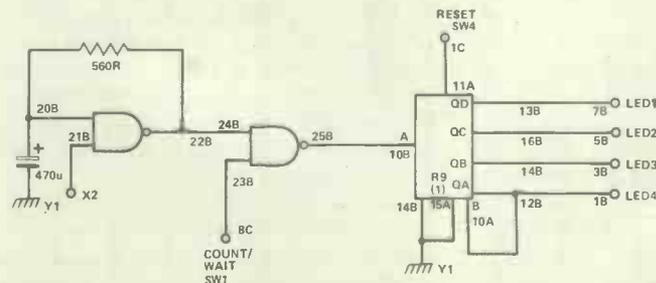

Figure 5.3 A clock-pulse oscillator driving the decade counter through a gate. The outputs of the counter are taken to LEDs
Now make the connections which are needed to use the 74LS90 as a decade counter, displaying its count on the LED's. The circuit is shown in Fig. 5.3. One of the spare gates of the 74LS132 is used to control the clock pulses, so that SW1 acts as a count/wait switch. Switch SW4 is wired to the reset (0), terminal, so that the counter can be reset with this switch up.
Figure 5.5 Counter-decoder-display circuit. Connections to the 74LS90 counter are the same as they were in Fig. 5.3, but the outputs Qa to Qd are connected to the decoder inputs, and the decoder outputs are connected through 470R resistors to the display